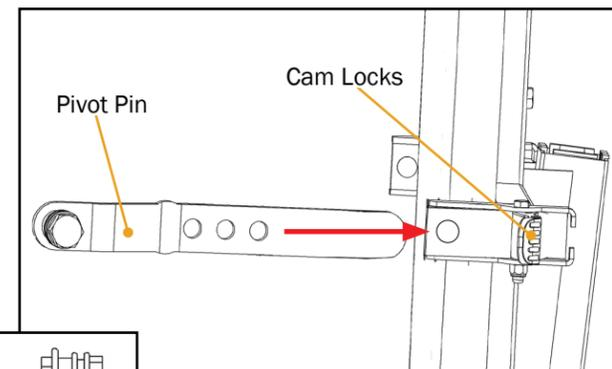

Figure 4A
- With the grooved pivot pins facing outward, insert the Roller Hinges into the brackets on each side of the Table Bed (Figure 4A). The Roller Hinges must slide between the cam locks and the brackets.